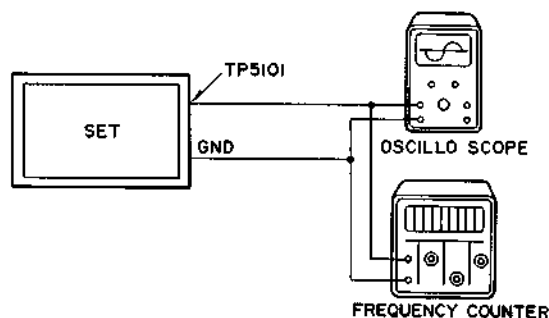

Figure 25
- (1) Make the connections as shown in Figure 25 and turn the power ON.
- (2) Insert the metal tape (TDK AC-712) into deck B and set to REC PLAY mode.
- (3) Adjust L5101 so that the TP5101 output becomes 105 kHz \pm 0.1 kHz in the mode set in (2).